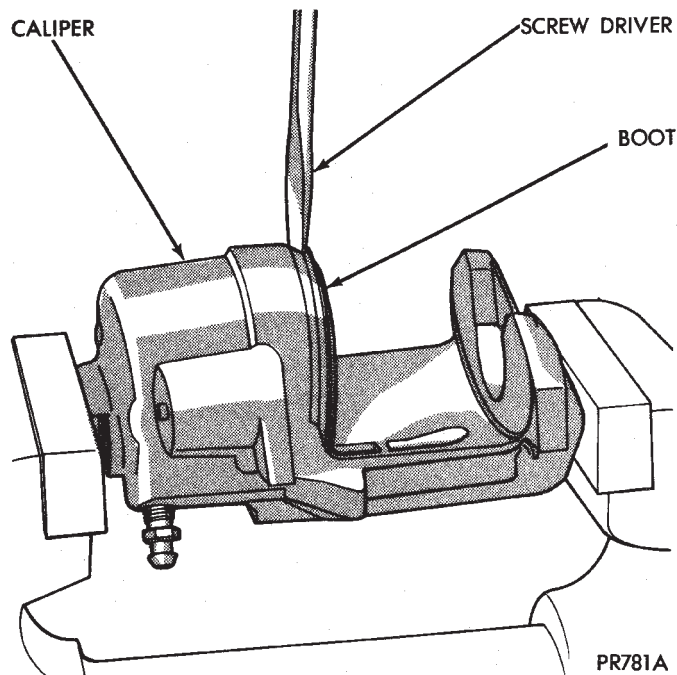

Fig. 1 Removing Piston Dust Boot
(5) Clamp caliper in vise (with protective caps on vise jaws).
(6) Remove dust boot from the brake caliper and discard (Fig. 1).